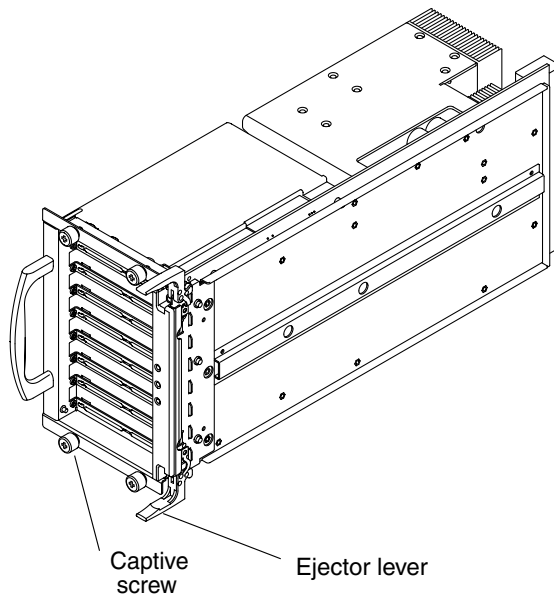

FIGURE 9-4 PCI I/O Assembly
6. Completely loosen the four captive Phillips screws (FIGURE 9-4).
6. Tighten the four captive Phillips screws. (FIGURE 9-4).